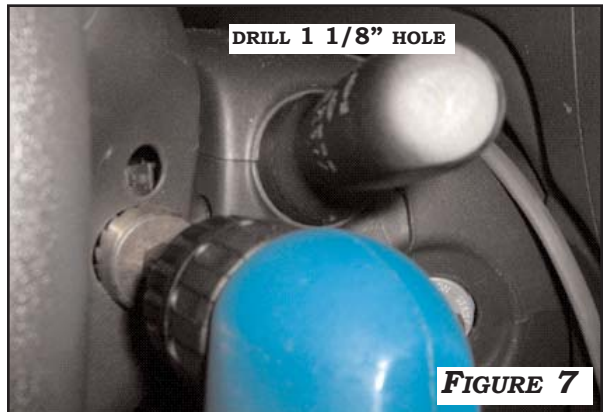

FIGURE 7
2. REMOVE YARIS SWITCH HOLE CUTTING TEMPLATE. USE A 1 1/8" HOLE SAW TO DRILL SWITCH HOLE. **FIGURE 7.**